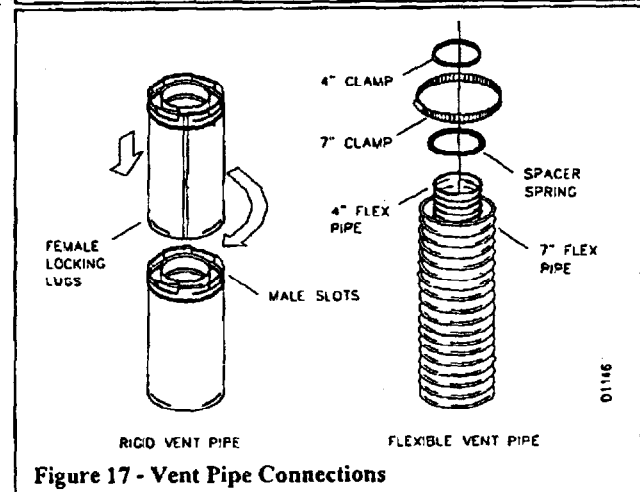

Figure 17 - Vent Pipe Connections
Twist-lock Procedure: The female ends of the pipes and fittings have four locking lugs (indentations). These lugs will slide straight into matching slots on the male ends of the adjacent pipes and fittings. (All connections must be sealed with high temperature silicone sealant as specified in the second warning statement on page 7.) Push the pipe sections together and twist one section clockwise approximately one-quarter turn until the sections are fully locked. (See figure 17). NOTE: Horizontal runs of vent must be supported every three feet. Use wall strap for this purpose.
2. Assemble the desired lengths of pipe and elbows necessary to reach from the fireplace flue up through the firestop. All connections must be sealed with high temperature silicone sealant as specified in the second warning statement on page 7. Be sure all pipe and elbow connections are fully twist-locked (see Figure 17, on page 8).